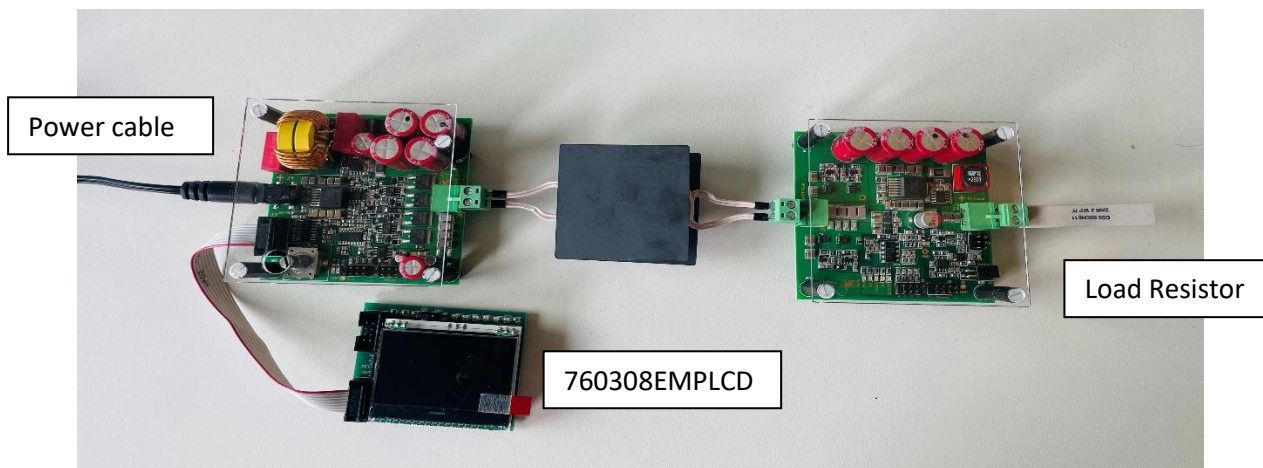
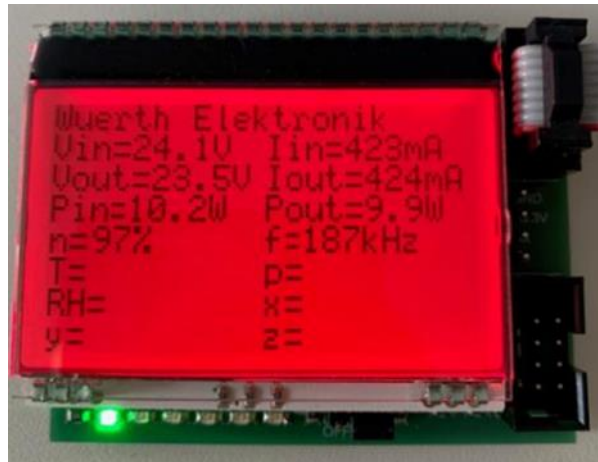

Figure10: Connection diagram of the 760308EMP with the 760308EMPLCD board
Figure 13: LCD Board display upon Turn on
- Once the hardware connection is made as shown in Figure 10 then the LCD software has to be flashed to the Tx and Rx board using the DAVE IDE.
Data is displayed upon turning on the LCD display board after connection as shown in the Figure 13 below.
Conclusion: The 760308EMPLCD add on board is flashed and can be connected with the Tx board as shown in the example above in Figure 10. Upon turn on, it will display the data as shown in Figure 13.